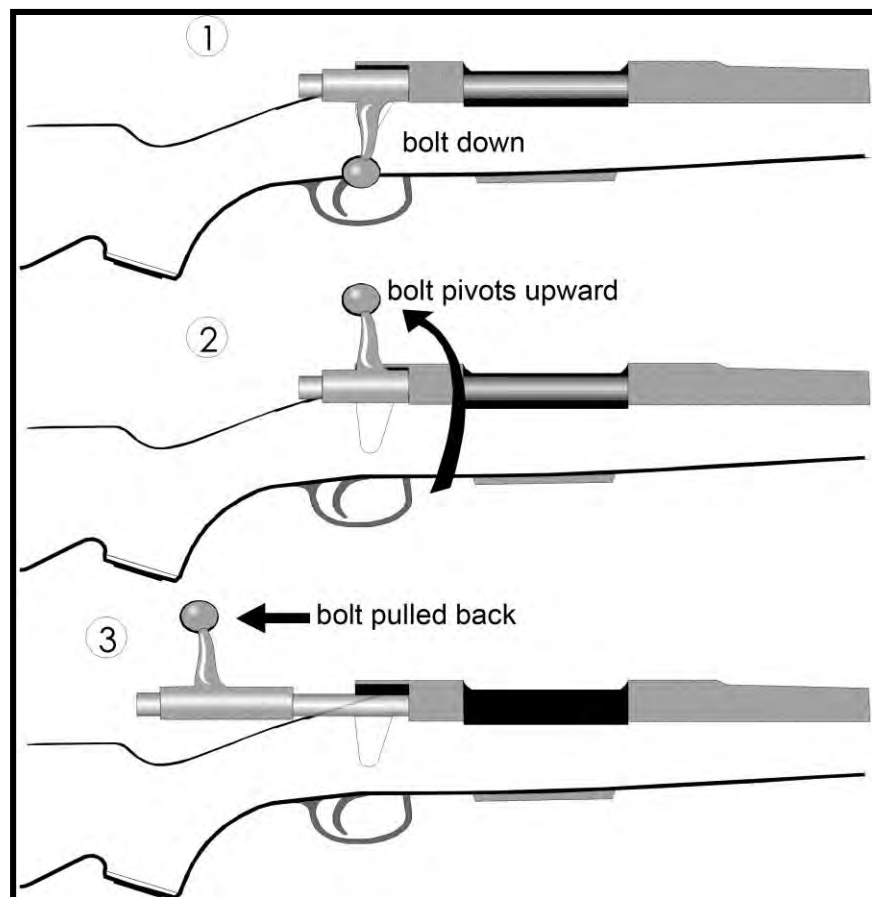

Figure 52. Bolt-action Repeater
- c. The safety mechanism is usually located on top of the action above the trigger area on the left or right side of the bolt. This is often a lever-type safety but can also be a slide/tang located directly behind the bolt (Figure 52).